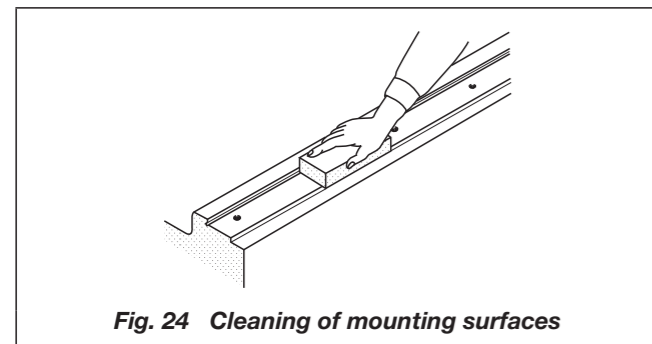

Fig. 24 Cleaning of mounting surfaces
①Cleaning of mounting surfaces and reference mounting surfaces
- Remove burrs and blemishes from mounting surfaces and reference mounting surfaces of the machine using an oil-stone, etc., and then wipe the surfaces with clean cloth. (See Fig. 24.)